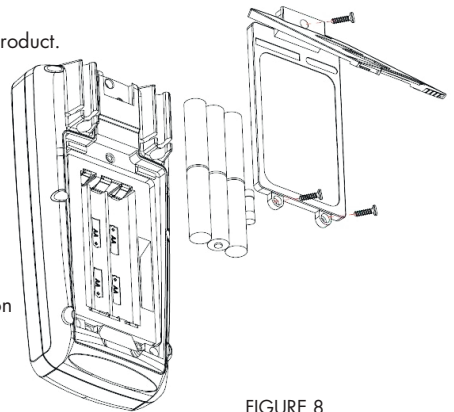

FIGURE 8
2. Installation or replacement of battery/fuse (see figure 8)
6 1.5V(M) batteries, as shown in Figure 8, provide power for the product.
4. Take out the damaged fuse as per the methods specified in Figure 8, and replace them with the fuse of the same specification (specification: 0.315A/250V).